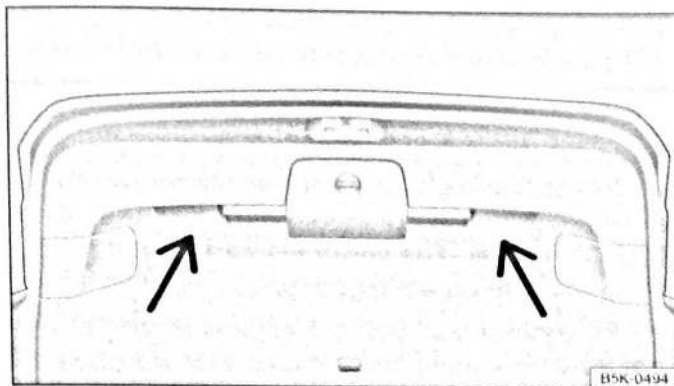

Fig. 38 Open tailgate: handle recess for closing the tailgate
- Grip one of the handles in the interior trim of the tailgate ⇒ Fig. 38 (arrows).